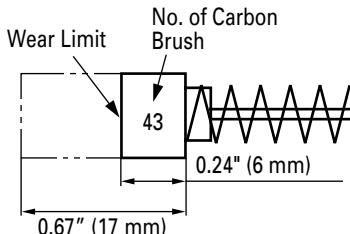

Fig. 28
**4. Inspecting the carbon brushes (Fig. 28)**
**NOTE:** Use HITACHI carbon brush No. 43 indicated in Fig. 28.